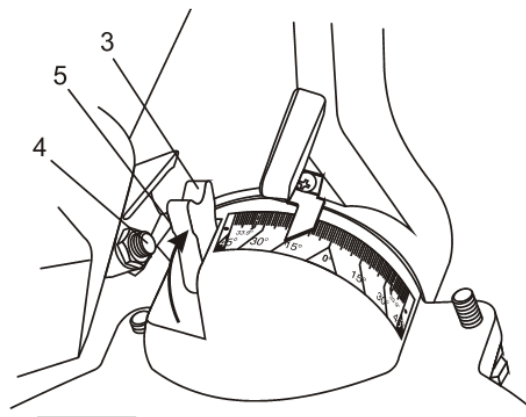
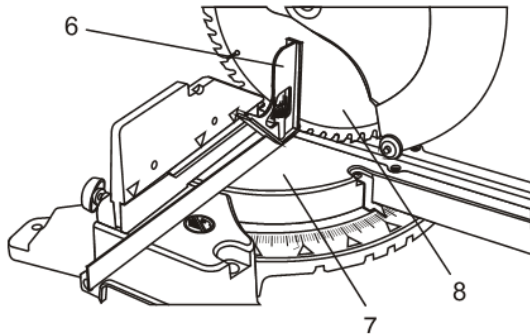

Fig. 11
Fig. 12
2. Lift the 0° bevel stop (3) to the vertical position (Fig. 11).
3. Rotate the cutting head clockwise until the 0° adjustment screw (4) contacts the left hand side of the 0° bevel stop (5).
5. Lock the handle in the down position. Hold a combination square (not provided) (6) against the base (7) and beside the saw blade (8) (Fig. 12).